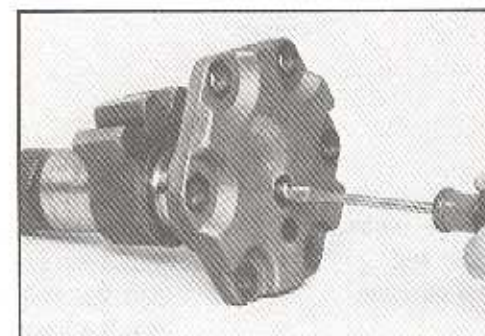

Figure 53
10. Remove jam nut (37) and screw sector shaft adjusting screw (45) out of side cover (38) and lift sector shaft (46) out of side cover. SEE FIGURE 53.